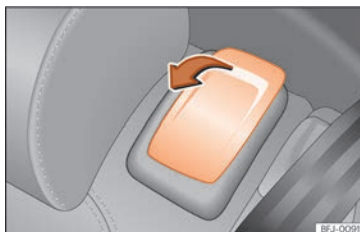

Fig. 116 Second row of seats:: access aid controls.
- Pull the release lever »» Fig. 116 in the direction of the arrow.
- Pull the lever »» Fig. 116 and push the backrest backwards until it is in a vertical position. The entire seat folds down »» .